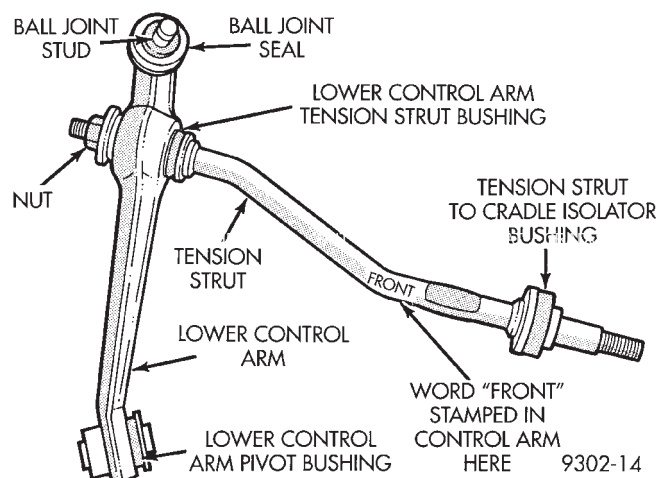

Fig. 77 Tension Strut Installed In Lower Control Arm.
(1) Position tension strut in lower control as shown in (Fig. 77), with word FRONT stamped in tension strut positioned away from control arm (Fig. 77). With an open end wrench on flat of tension strut to keep tension strut from turning. Tighten **NEW** tension strut to lower control retaining nut to a torque of 150 N·m (110 ft. lbs.).